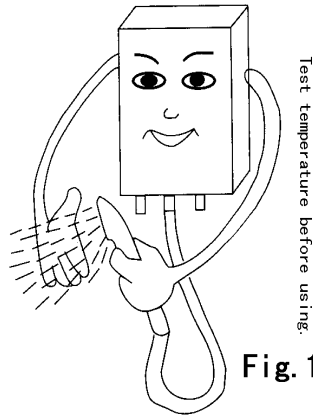

Fig. 10
- Test water temperature with your hand before use to avoid scalding. (Fig.10)